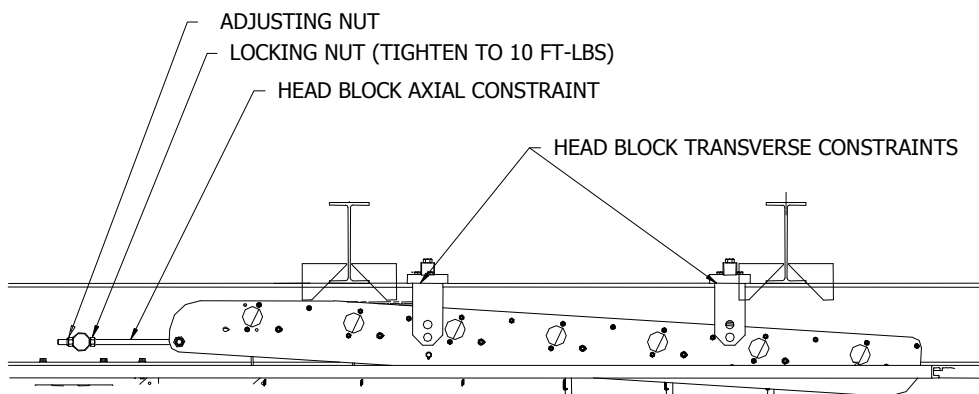

Figure 15: Head block constraints and adjustment nuts
2. Loosen but do not remove the locking nut on the axial head block constraint. See Figure 15. Hoist does not need to be unloaded as long as nuts remain fully engaged with the threaded fastener.